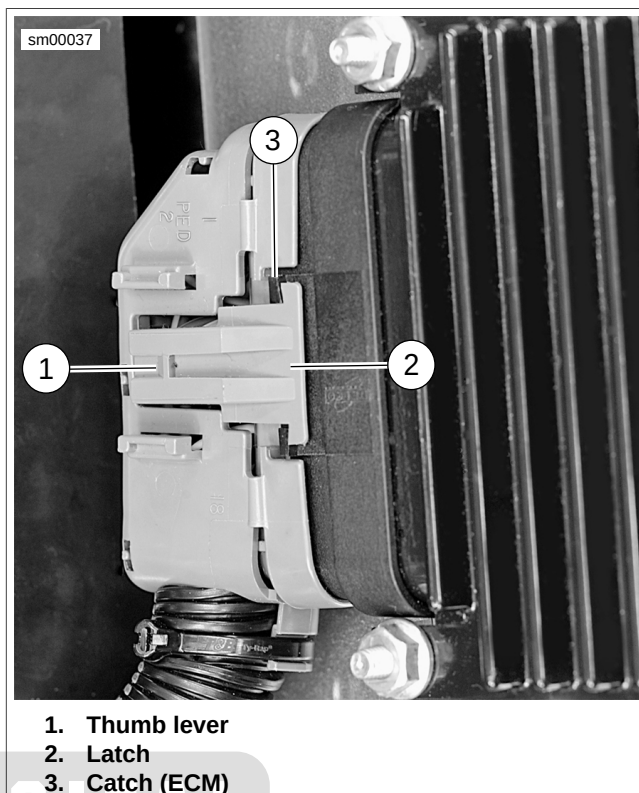

Figure A-40. Packard 100W to ECM (Typical)
See Figure A-40. While pressing the connector into the ECM, press the thumb lever (1) against the connector until the latch (2) pops out of the catch (3) on the ECM.